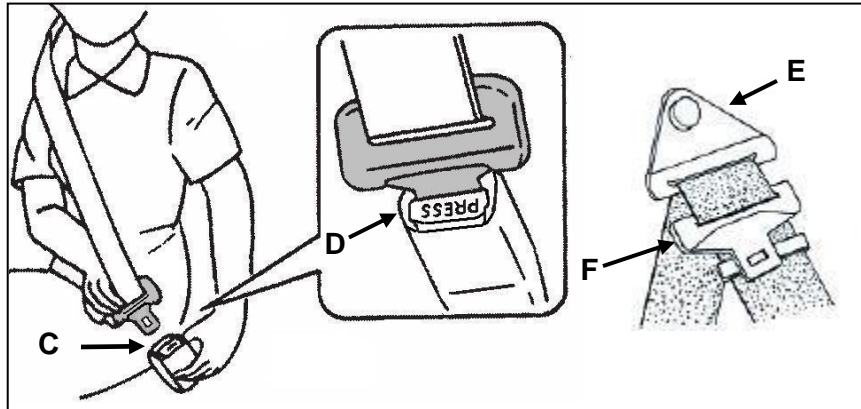

Figure 3.3.2
See Figure 3.3.2. To fasten the seat belt, pull out the belt slowly and without pause, push buckle into lock (C) until you hear a light click. If the belt binds when pulling it out, release the belt and pull out again.